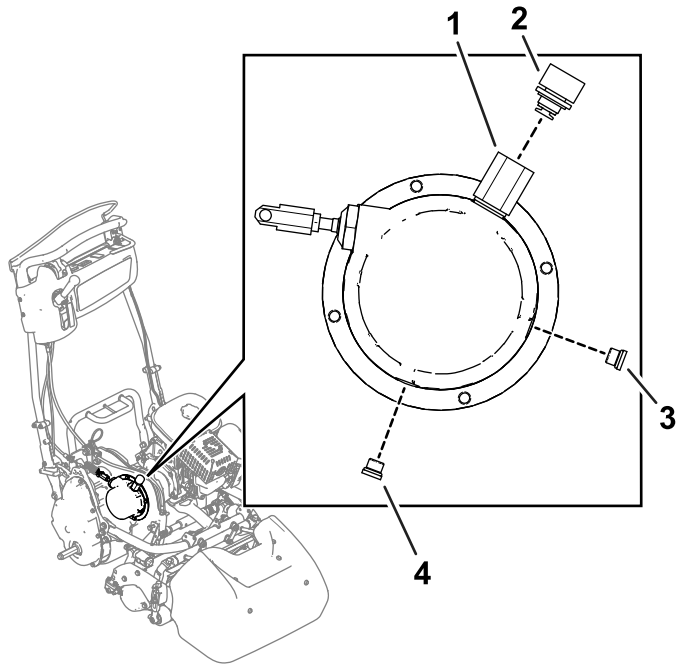

Figure 48
1. Remove the vent from the breather from the transmission assembly (Figure 48).
2. Remove the drain plug (Figure 48) and allow the transmission fluid to drain from the transmission housing.
6. Remove the level plug (Figure 48) to confirm fluid fill level.